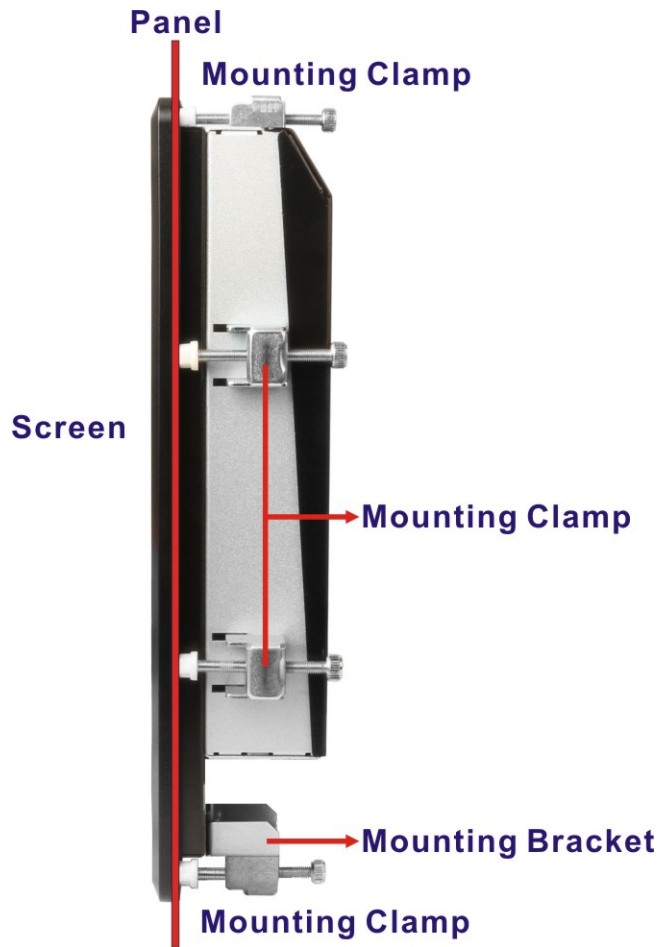

Figure 3-34: Tighten the Mounting Clamp Screws
- Step 17:** Insert the mounting clamps into the mounting brackets and pre-formed holes along the edges of the PPC-FxxA-H81, behind the aluminum frame (Figure 3-34). The required number of mounting clamps may vary by models.
- Step 18:** Tighten the screws that pass through the mounting clamps until the plastic caps at the front of all the screws are firmly secured to the panel (Figure 3-34).